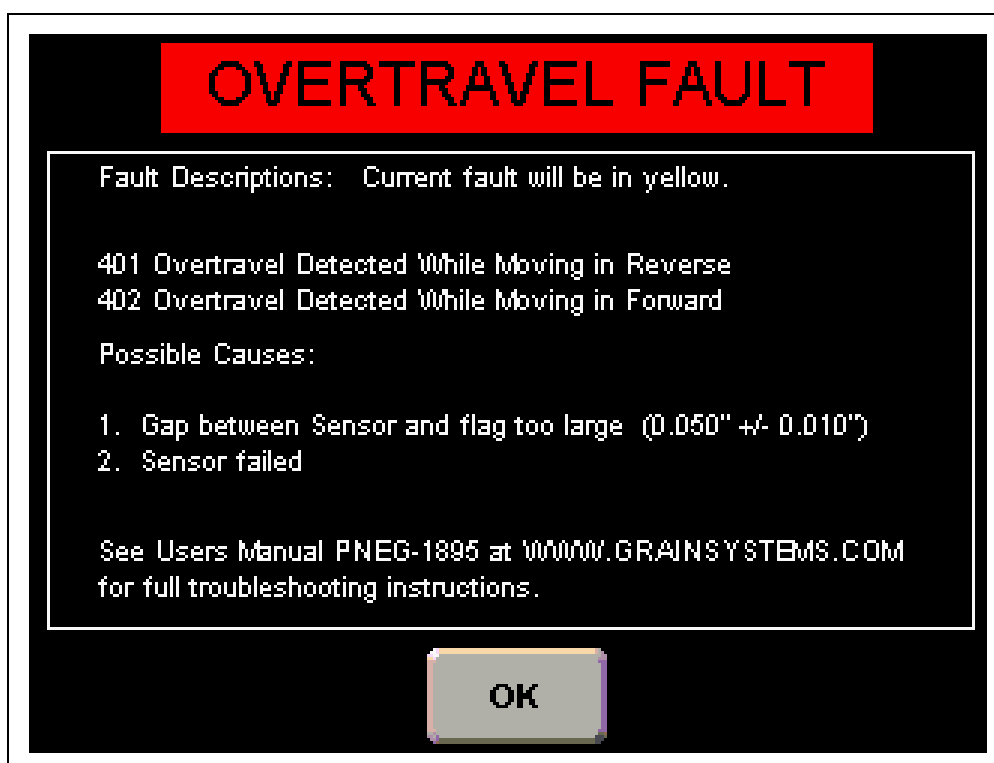

Figure 4X Overtravel Fault Screen
**Overtravel Fault:** Displays the “Overtravel Fault” screen which offers possible causes and solutions to faults caused by the an overtravel condition. (See Figure 4X on Page 34.)